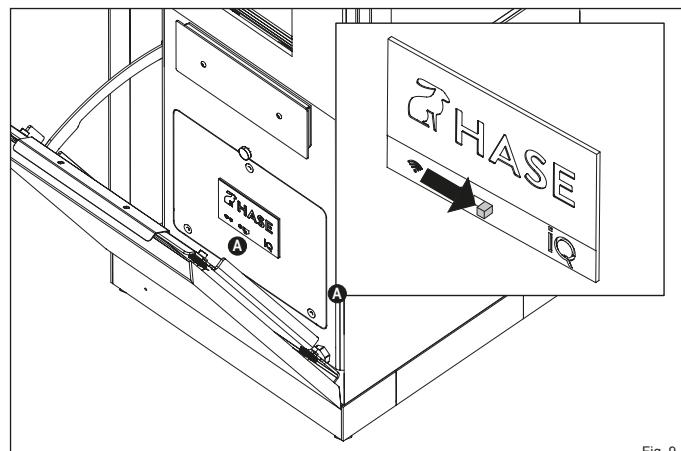

Fig. 9
- ▶ **Set the switch on the control panel to "On" (Figure 9).**